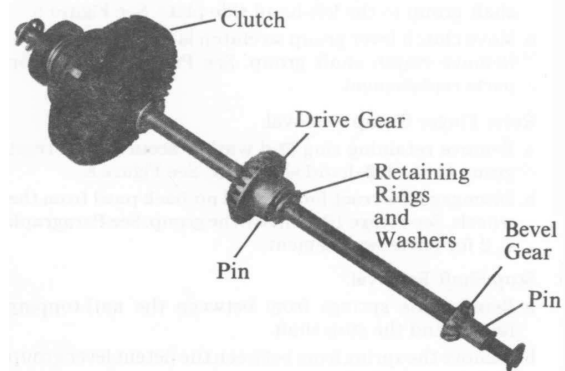

Figure 10. Clutch Shaft Group
1. Clutch Shaft Parts Replacement. See Figure 10.